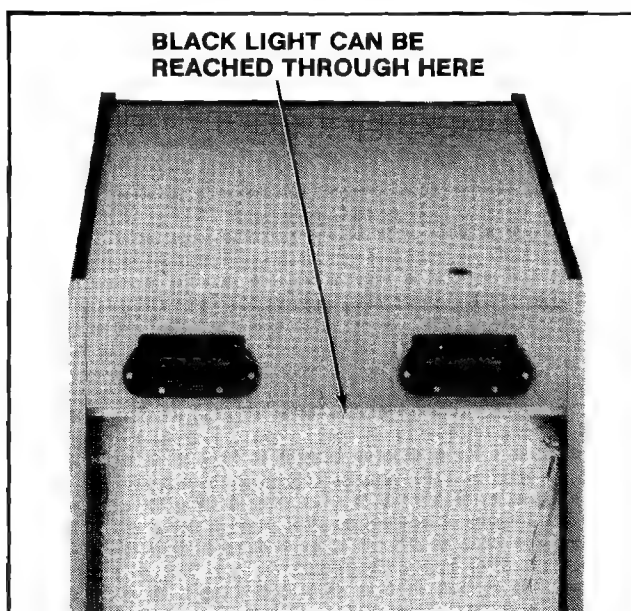

Figure 2-35 Replacing Black Light
- ❑ The ultraviolet light tube may be replaced at this time by removing the rear access door of the game and the back scenery panel if necessary. See Figure 2-35. BE CAREFUL NOT TO DROP IT.